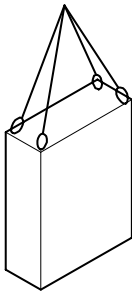

Fig. 16
1. Attache robes, belts or multipoint lifting tackle as shown in figure 16.